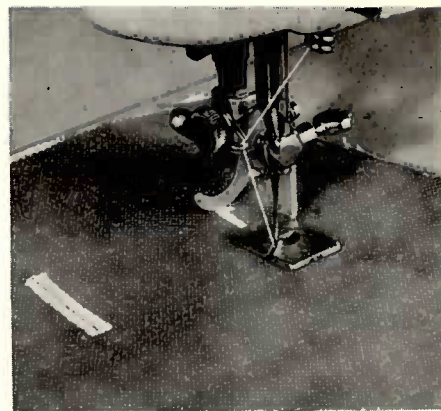

Fig. 29
- 2) Replace the presser foot for button hole sewing. (Fig. 29).